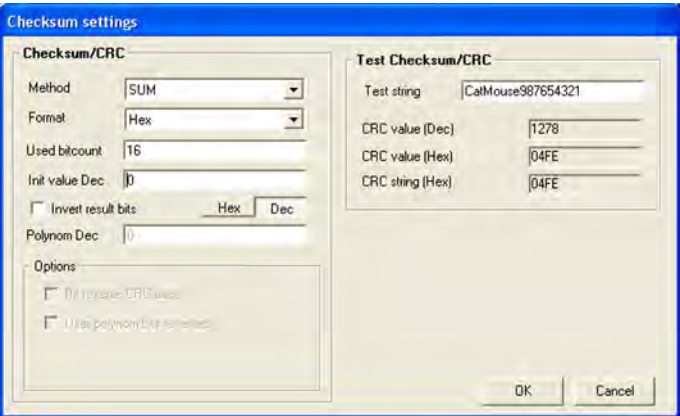

Figure 107 Checksum Settings Window
- 3. Select the **Report** tab on the right and click the **Checksum** button. The **Checksum settings** window opens as shown in Figure 107 on page 206.